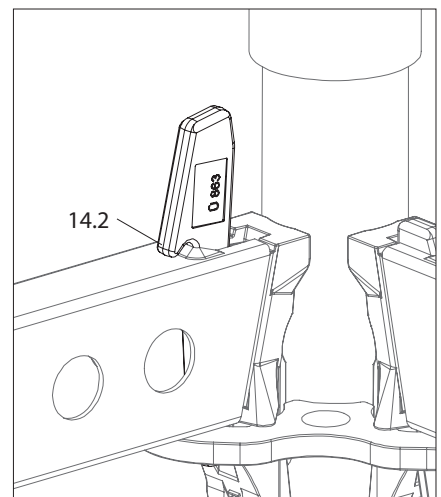

Fig. A3.05a
2. Lift out the wedge and place it on the horizontal ledger with the wedge nose (14.2). (Fig. A3.05a)